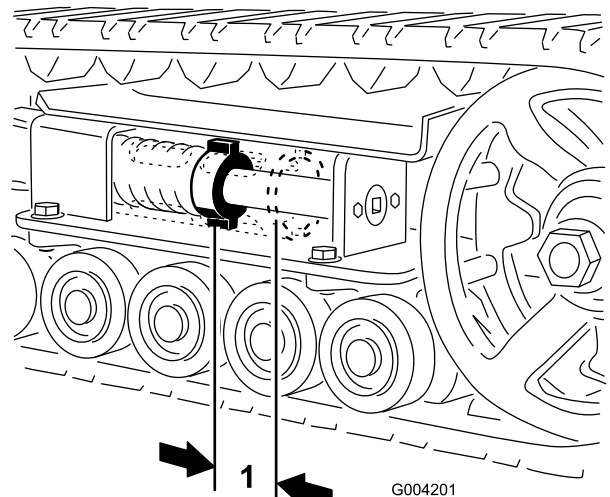
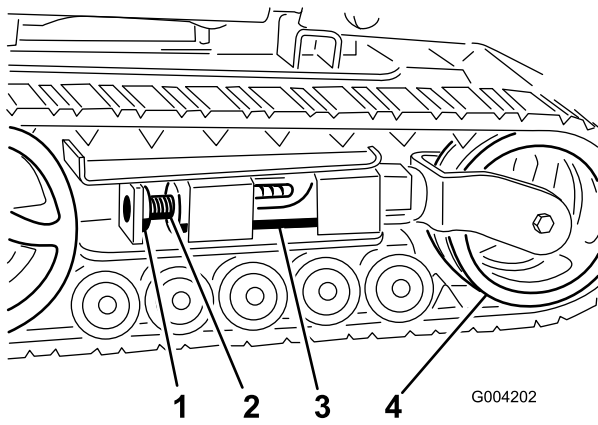
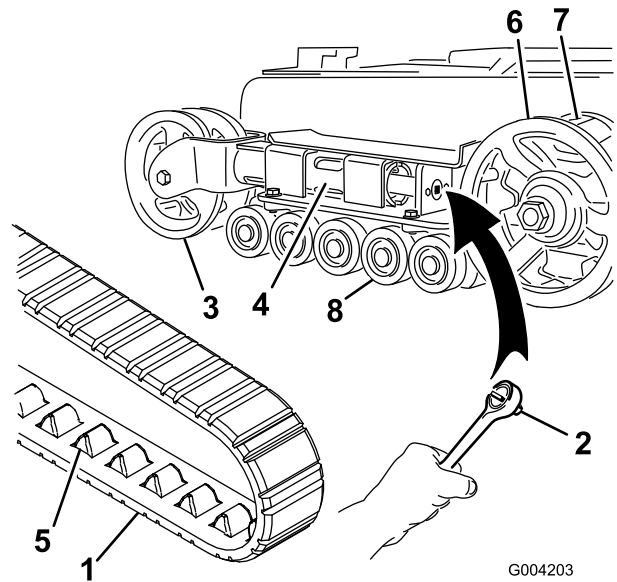
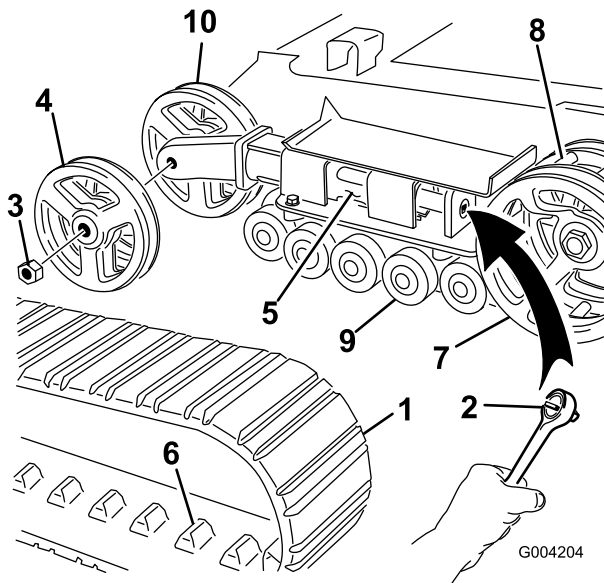

Figure 43
Figure 44
Figure 45
Figure 46
There should be 2-3/4 inches (7 cm) between the tension nut and the back of the tension tube (Figure 43). If not, adjust the track tension using the following procedure:
3. Remove the locking bolt and nut (Figure 44).
- Using a 1/2 inch drive socket (Figure 45), turn the tensioning screw counter-clockwise until the distance between the tension nut and the back of the tension tube (Figure 43) is 2-3/4 inches (7 cm).
- Align the closest notch in the tension screw to the locking bolt hole and secure the screw with the locking bolt and nut (Figure 44).
- Remove the locking bolt and nut (Figure 44).
- Using a 1/2 inch drive socket, release the drive tension by turning the tensioning screw clockwise (Figure 44 and Figure 45).
- Push the tension wheel toward the rear of the unit to move the fork tube against the frame (Figure 45). (If it does not touch the frame, continue turning the tensioning screw until it does.)
- When the track is off of the tension wheel, remove it from the drive sprocket and road wheels (Figure 45).
- Beginning at the drive sprocket, coil the new track around the sprocket, ensuring that the lugs on the track fit between the spacers on the sprocket (Figure 45).
- Push the track under and between the road wheels (Figure 45).
- Turn the tensioning screw counter-clockwise until the distance between the tension nut and the back of the fork tube (Figure 43) is 2-3/4 inches (7 cm).
4. Using a 1/2 inch drive socket, release the drive tension by turning the tensioning screw clockwise (Figure 44 and Figure 46).
5. Push the tension wheel toward the rear of the unit to move the tension tube against the frame (Figure 46). (If it does not touch the frame, continue turning the tensioning screw until it does.)
6. Remove the nut securing the outer tension wheel and remove the wheel (Figure 46).
7. Remove the track (Figure 46).
8. Remove the nut securing the inner tension wheel and remove the wheel (Figure 46).
12. Install the inner tension wheel and secure it with the nut removed previously (Figure 46).
14. Install the new track, ensuring that the lugs in the track fit between the spacers in the middle of the drive sprocket (Figure 46).
15. Install the outer tension wheel and secure it with the nut removed previously (Figure 46).
17. Turn the tensioning screw counter-clockwise until the distance between the tension nut and the back of the tension tube (Figure 43) is 2-3/4 inches (7 cm).